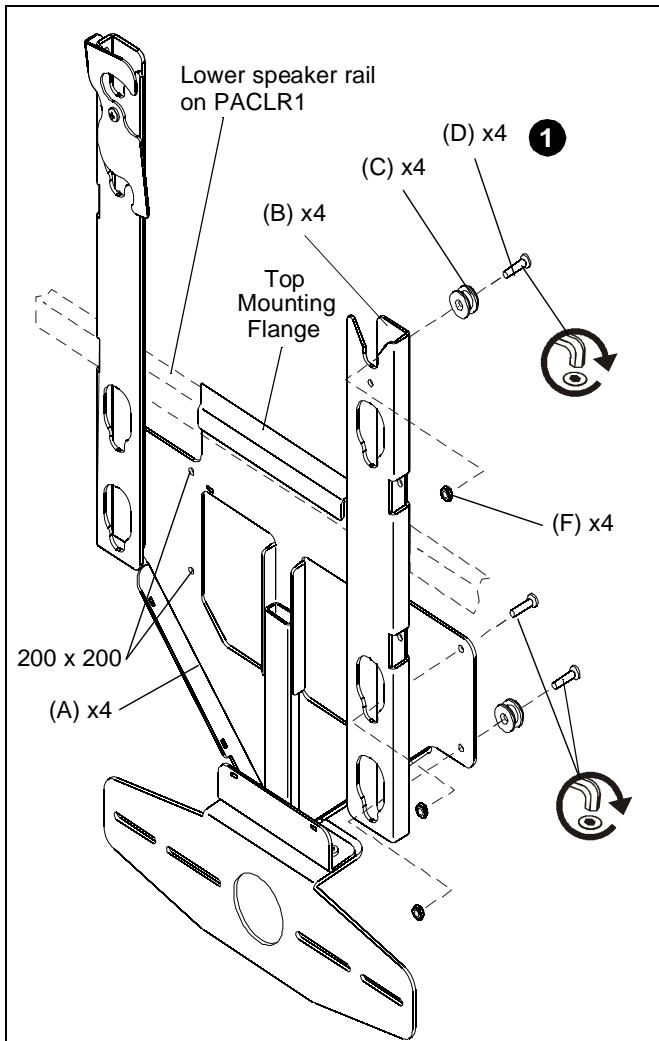

Figure 1
The PACCC1 is designed to accommodate both 200 x 200 VESA and 14" x 14" display mounting patterns. If 200 x 200 pattern is required use the inner mounting holes when installing uprights (B). (See Figure 1)
1. Install four mounting buttons (C) to uprights, and uprights (B) to support plate (A) using six button head cap screws (D and E) and six lock nuts (F). (See Figure 1)